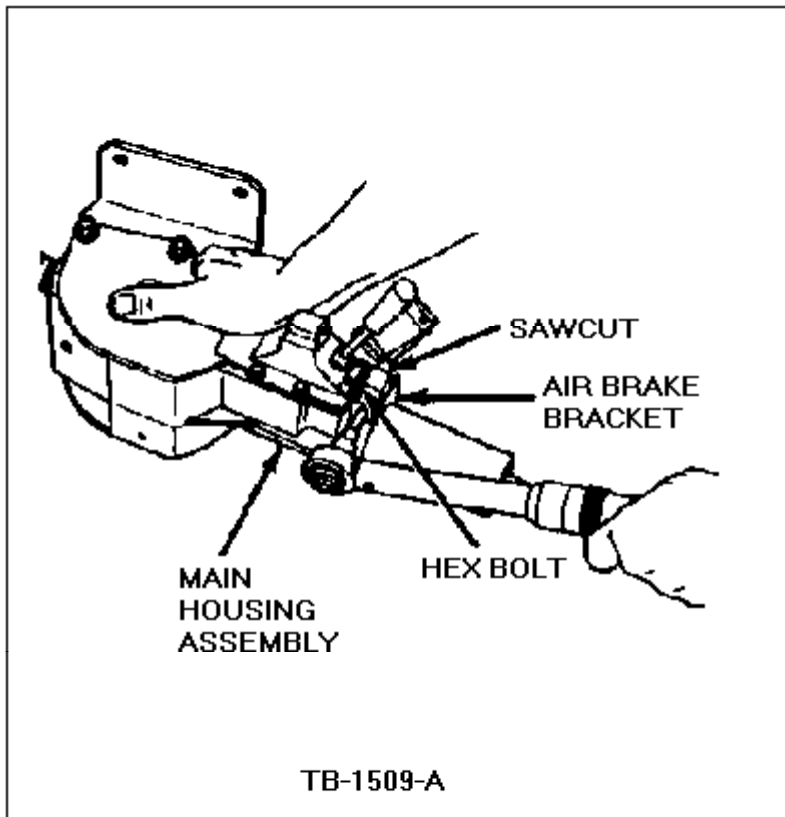

Figure 42 - Article 90-5-10
54. Install the air brake bracket over the wheel tube and jacket tube and onto the main housing with the lugs toward the housing and the sawcut in line with the tilt lever, Figure 42.
55. Tighten the screw in the air brake bracket to 10-15 lb.ft. (14-20 N-m), Figure 42.